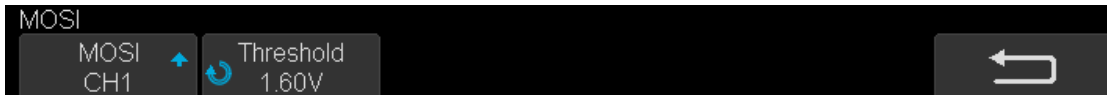

Figure 43 MOSI Menu
4. Press **Signal** softkey to enter the **SIGNAL** menu as Figure 43 shows.